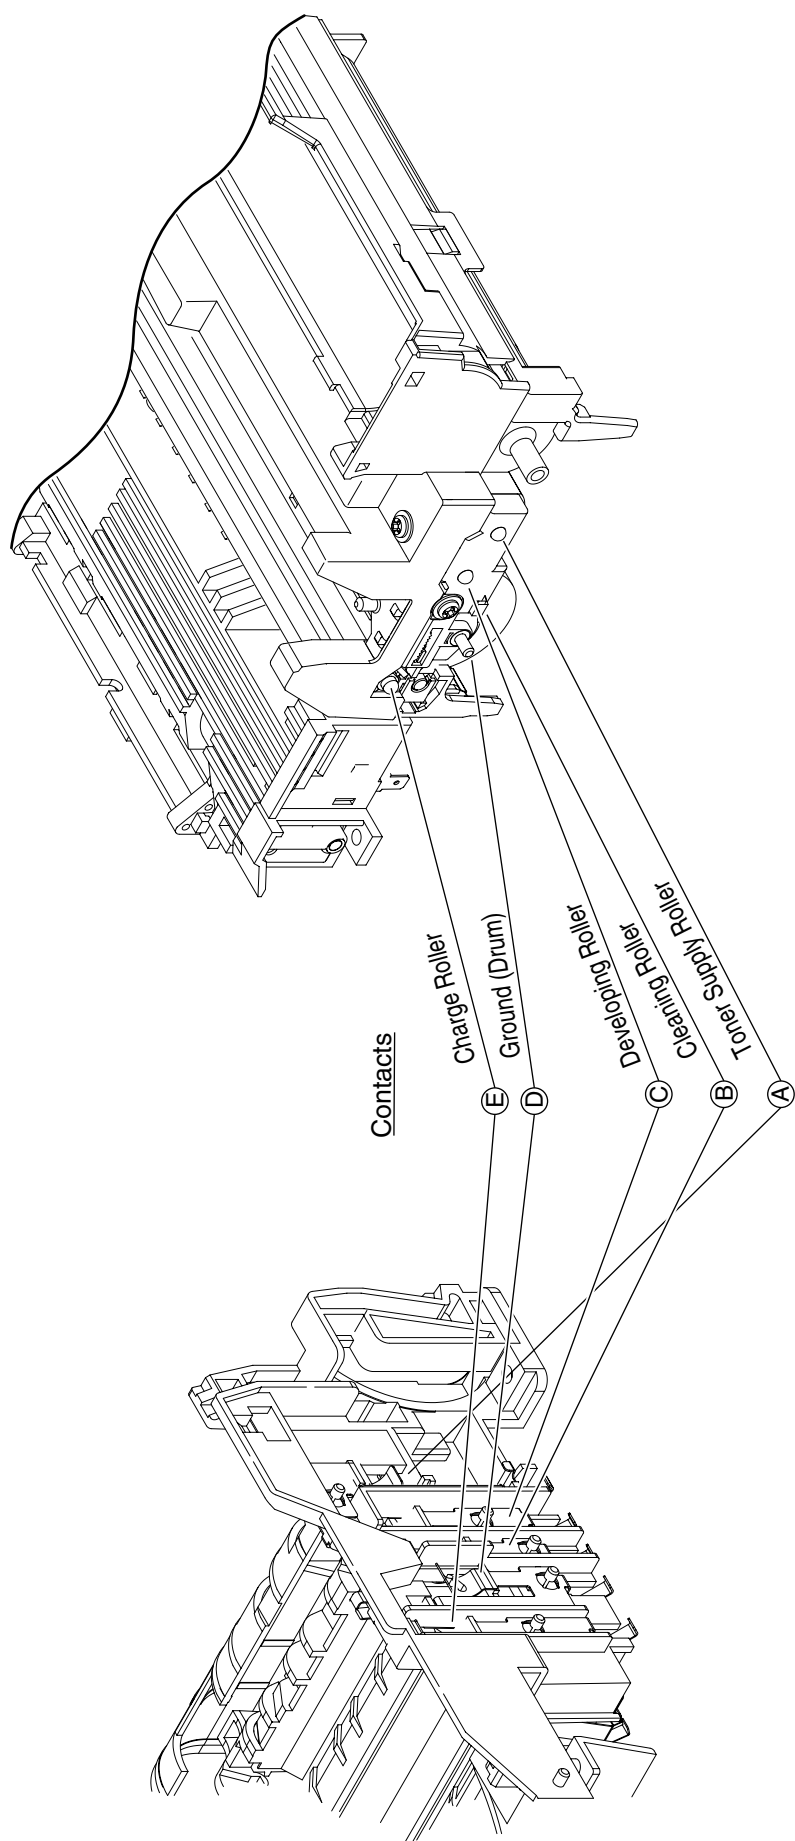

Figure 5-4
▼ Yes Are the contact of the developing roller and the contact of the toner supply roller of the image drum cartridge in contact with the contact assembly properly (see Figure 5-4 (A) and (B))?
- ▼ Yes Are the contacts of the toner supply roller, developing roller, image drum and charging roller in proper contact with the contact assy (see Figure 5-4 (A),(B),(C),(D),(E))?